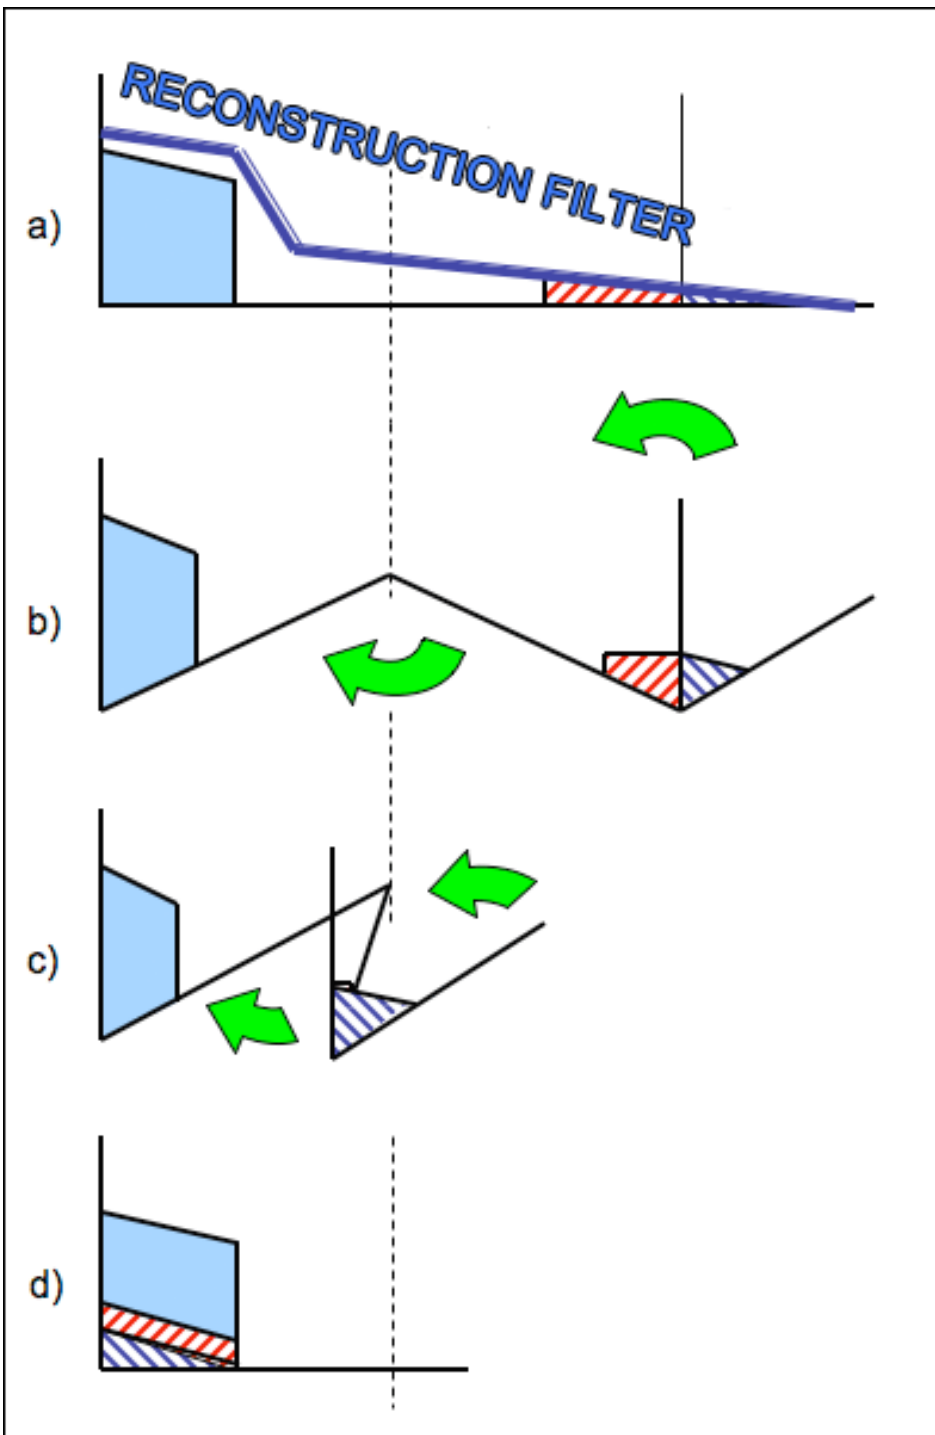

Figure 5. Proper reconstruction filtering reduces the visibility of the folded interference by smoothing the video waveform.
**Figure 5** demonstrates the results of a proper reconstruction filter. Some literary license has been taken to make the frequency folding easy to understand. Normally the frequency domain is plotted with both frequency and amplitude having logarithmic scales. The reconstruction filter would then be a smooth curve. However to illustrate the sideband position of the folding, the frequency and amplitude are plotted on linear scales. To show the attenuation of the lowpass filter on the same scale, the filter curve has been bent to show that there is little attenuation of the wanted video and greater attenuation of the image frequencies. Again, Figures 5b and 5c show the folding effect. Note that the image frequencies in Figure 5d are greatly reduced as compared to Figure 3d.